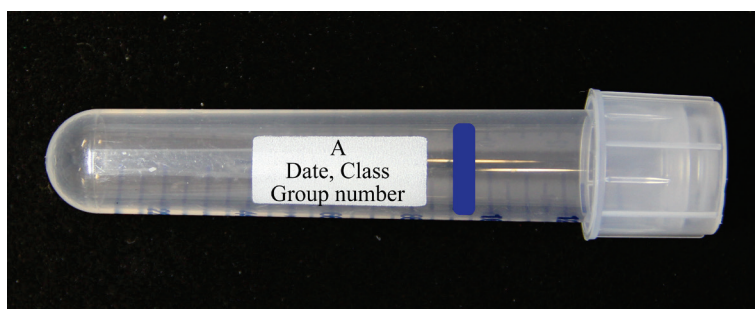

Fig. 6
2. Label 5 culture tubes with the different test solutions according to Table 1, the date of the experiment, your class, and group number (Fig. 6).